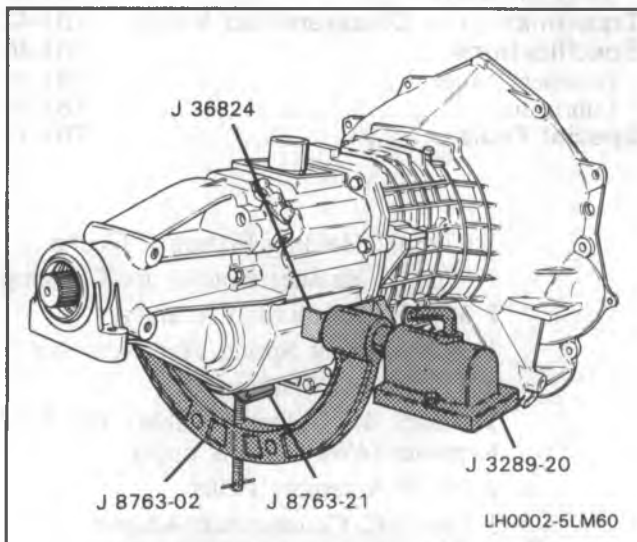

Figure 2 Holding Fixture Installed
- J 8763-21 onto J 8763-02 (Figure 2)